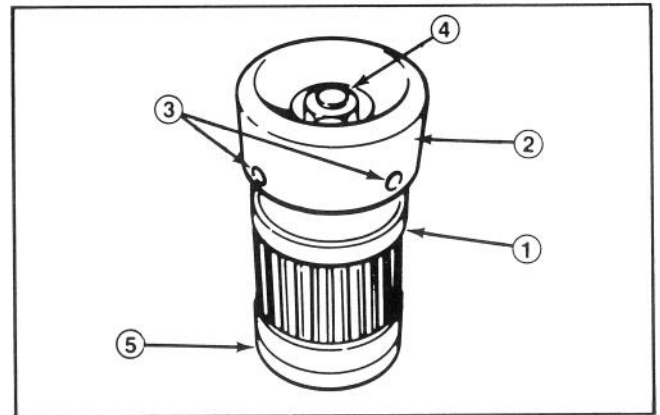

Figure 8
A. Remove the clutch engagement knob from the clutch assembly by loosening the (2) allen head set screws and removing the nut and washer from the clutch adapter shaft (Fig. 8).